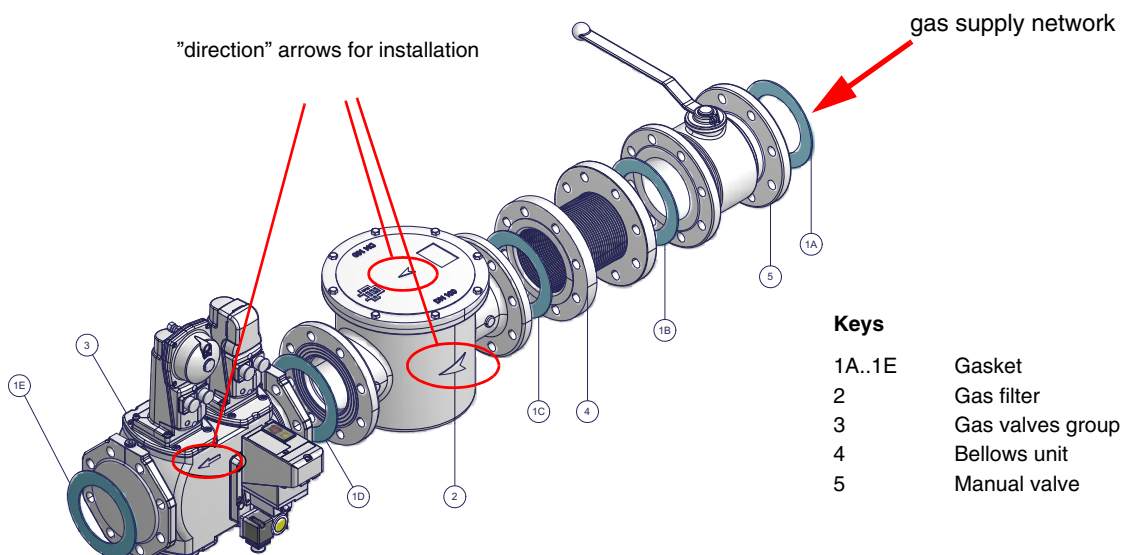

Fig. 5 - Example of gas train
- 1-b) in case of flanged joints: place a gasket (no. 1A..1E - Fig. 5) between the elements.
ATTENTION: once the gas train is mounted according to the diagram on Fig. 5, the gas proving test must be performed, according to the procedure set by the laws in force.